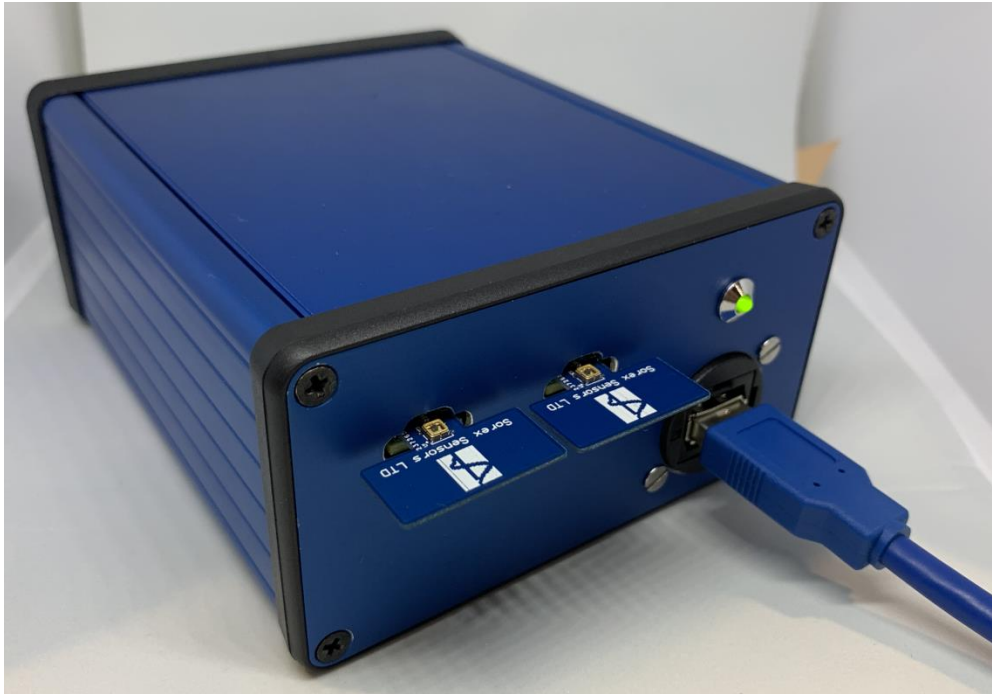

Figure 5: Connection for a first measurement.
1. **Insert the sensor card(s)** in the input socket(s) of the driving circuit box, as shown in Figure 5.